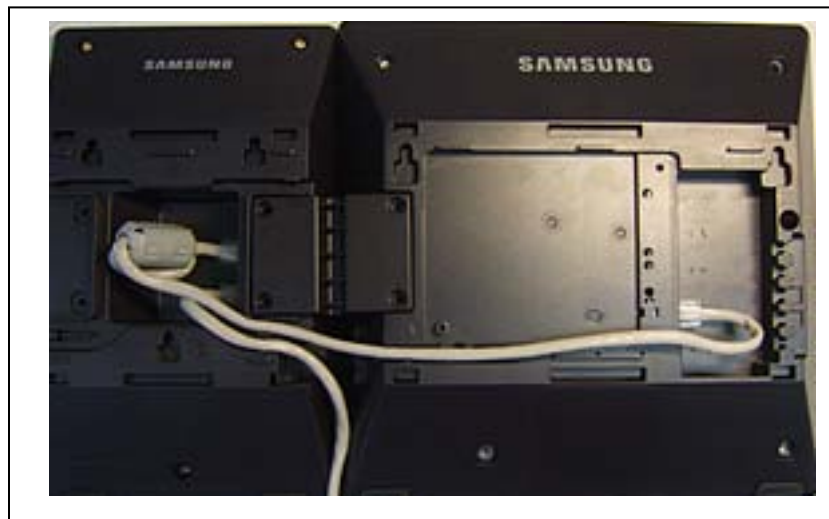

Figure 7.17 Attaching SMT-i5264 AOM to phone
- 4) To connect to the phone, connect the UTP cable between the port and the LAN port of the IP phone. \(See Figure 7.17\).
If PoE is used, PoE connection should be connected to the LAN port of the SMT-i5264 (AOM) first then transfer over to the phone. As shown in Figure 7.17 the SMT-i5264 (AOM) can transfer the power from the LAN port to the phone port, but the phone can't transfer power to the AOM.